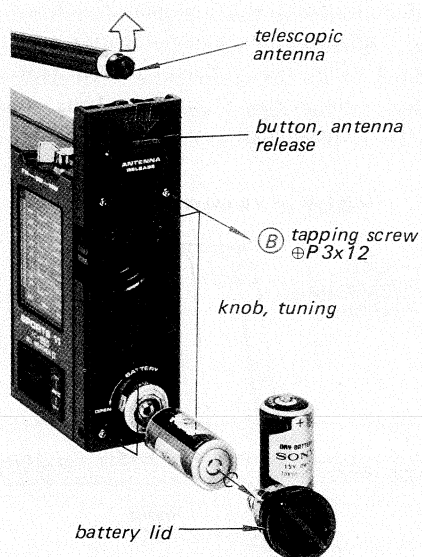

Fig. 2-2.
3. Press down the antenna release button shown in Fig. 2-2.
5. Remove the four screws labeled (B) in Fig. 2-2.
6. Pull out the right side cover with the tuning knob and battery lid as shown in Fig. 2-2.